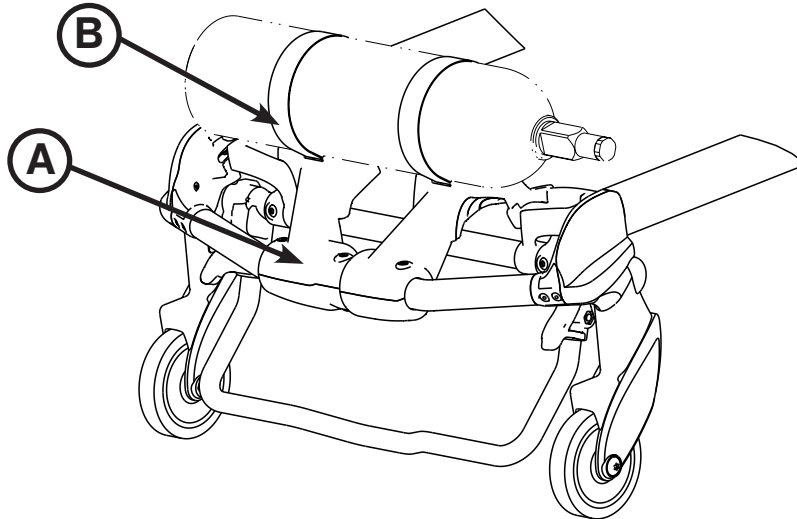

Figure 54: Retractable Head Section Oxygen Bottle Holder
1. Center the oxygen bottle on the cradled surface of item (A) as shown in Figure 54.
2. Tighten both straps (B) around the oxygen bottle.